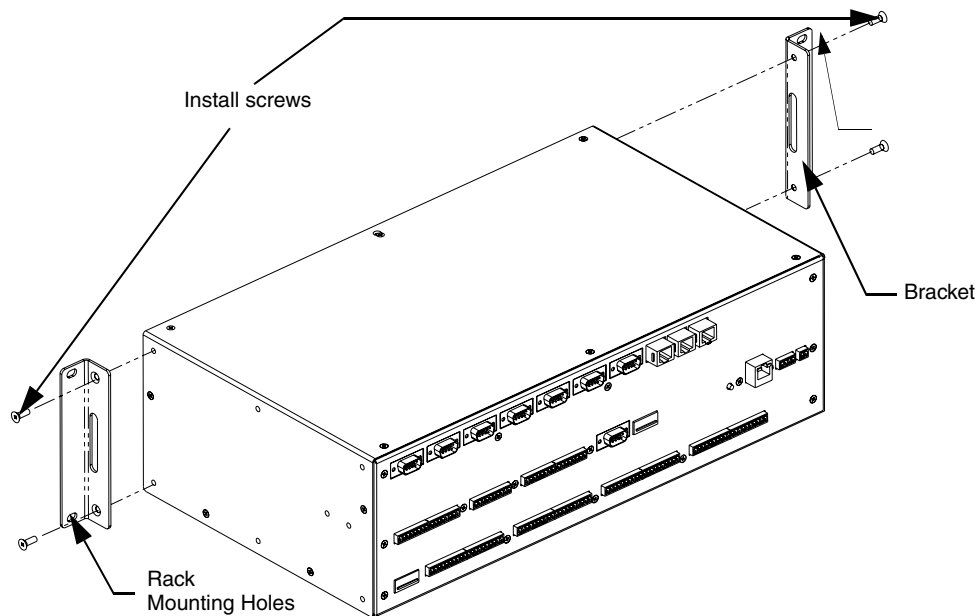

FIG. 23 Mounting Integrated Controller into an equipment rack
2. Position and install the mounting brackets, as shown in FIG. 23, using the screws supplied with the unit. The mounting brackets can be rotated to accommodate your mounting needs.
7. Slide the unit into the rack until the attachment holes, along both sides, align to their corresponding locations on the mounting brackets, as shown in FIG. 23.